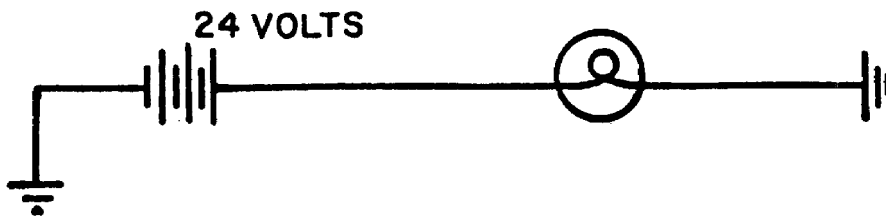

Figure 1-6. Series Circuits.
(2) Figure 1-6 shows a series circuit consisting of one or more units connected in series (negative to positive) to form a single path for current to flow. Most every one is familiar with the old type of Christmas tree lights where all of the bulbs go out when any one of the bulbs burn out. These lights are connected in series (negative to positive). A break anywhere in the circuit will cause all of the lights to go out.